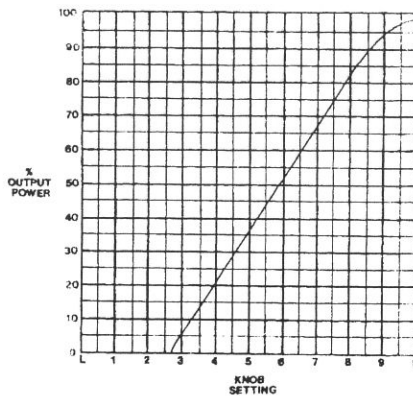

FIG. 5
2. Wherever the control knob is set, the output will remain constant, regardless of surrounding temperature. See Fig. 5 for the percent of output as per knob setting.